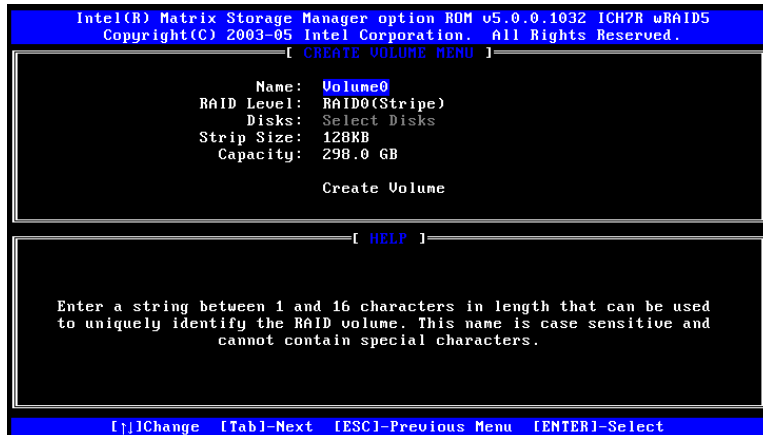

Figure F-2: Create RAID Volume Name
Step 2: Name the RAID volume. Enter a name for the RAID volume, or press **ENTER** to accept the default volume name. Upper and lower case alphabetic, numeric, space, and underscore characters are all applicable for naming an array. See **Figure F-2**.